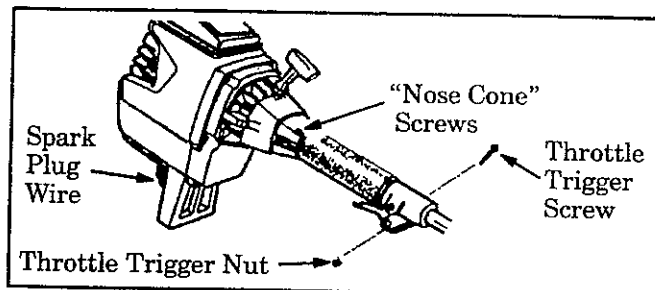

Figure 27
1. Remove the screw and nut from the throttle trigger housing. Figure 27.